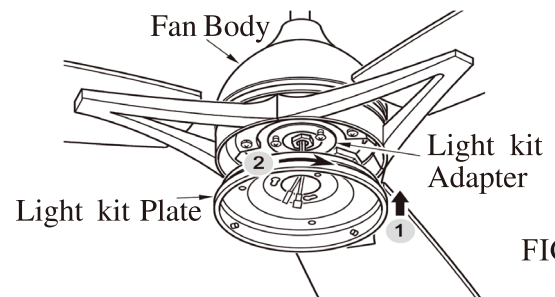

FIG.17
2. Gently pull the wire through light kit plate. Have the key hole over the loosened screws. Turn the light kit plate clockwise, and tighten the previously removed and loosened screws. (See fig 17 & 18)